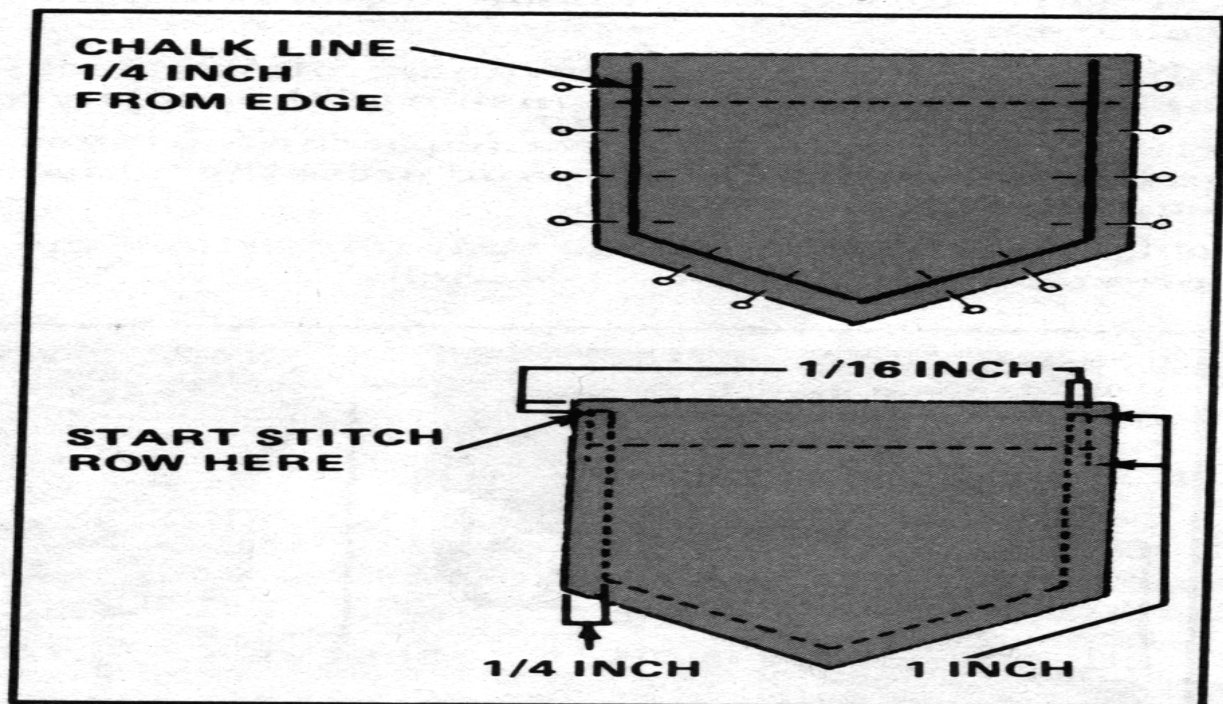

Figure 4-20. Replacing a patch pocket
- a. Replacing a Patch Pocket. To replace a patch pocket (Figure 4-20)--
- (1) Remove the damaged pocket by cutting through all the stitches holding it in place. Do not cut the underlying fabric of the garment. Clean away all loose threads. Place the garment faceup on the worktable.
(2) Obtain a matching replacement pocket. Use one salvaged from a similar garment that has been scrapped, or make one from cloth using the old pocket as a pattern. Match the fabric fading as closely as possible.
(3) Place the new pocket faceup on top of the garment. Cover the same area that the old pocket covered. Pin the pocket in place.
(4) Measure and mark a chalk line  $\frac{1}{4}$  inch from the folded edge on all sides of the pocket except the top.
(5) Position the pocket and the garment under the needle of the sewing machine.
(6) Stick the needle into the pocket  $\frac{1}{16}$  inch down from the right side of the pocket.
(7) Stitch down 1 inch and then back up to the starting point to tack the seam.
(8) Pivot the cloth on the needle, and take one or two stitches to the chalk line.
(9) Pivot the cloth on the needle, and stitch around the pocket on the chalk line. Pivot the cloth on the needle at the corners.
(10) Pivot the cloth on the needle  $\frac{1}{16}$  inch away from the top edge of the cloth. Take one or two stitches so that the needle is now  $\frac{1}{16}$  inch away from the side of the pocket.